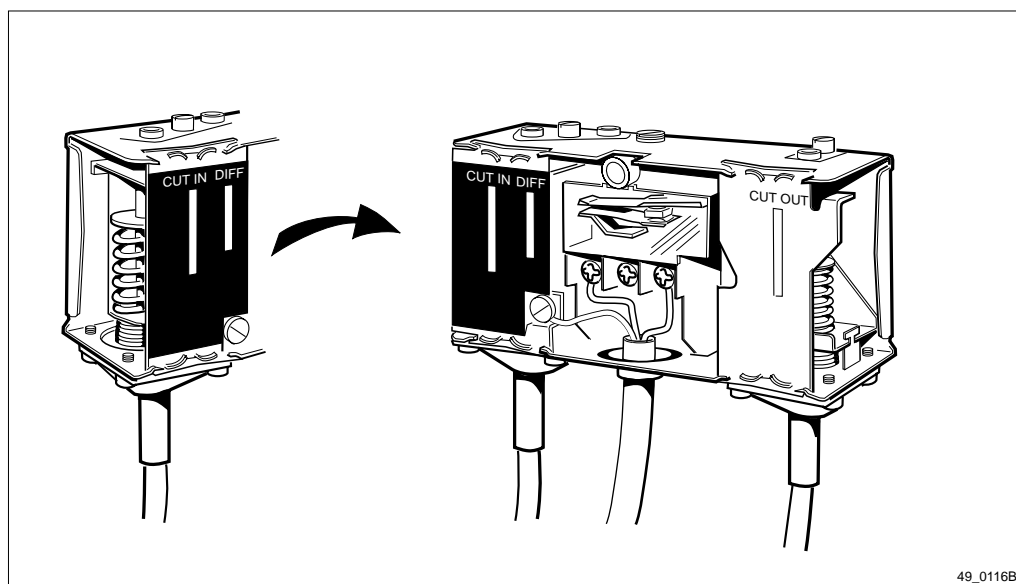

Figure 41 Pressure valve relay
3. Refer to Figure 41 on page 86 and inspect the contacts on the pressure valve relay. Activate the relay manually on both sides to make sure that the contacts have not become frozen together.